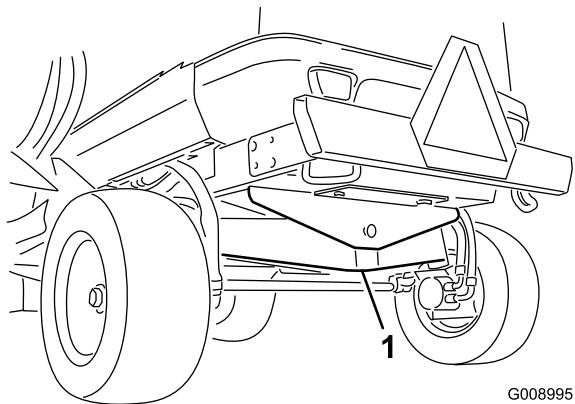

**Figure 38**
- On the front of the machine on the frame on the inside of each drive tire (Figure 38).